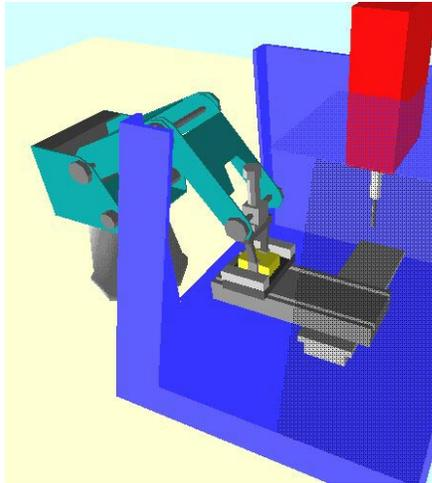

Figure 7-4: Position 3
- 2 Refer to Figures 7-4, 7-5 and 7-6.
- 3 Once the gripper has successfully placed the block in the vise, record this position as **robot position 3**, as shown in Figure 7-4.